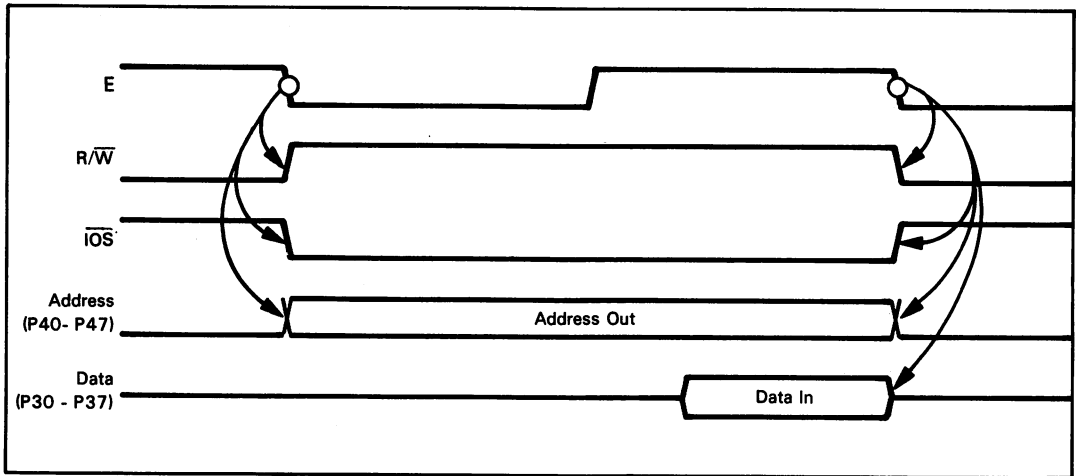

Figure 9-53. MC6801 Non-Multiplexed Bus Timing (Read Cycle)
**Figures 9-53 and 9-54 illustrate Read and Write timing for devices on the bus.** Exact timing is given in the MC6801 data sheets at the end of this chapter.